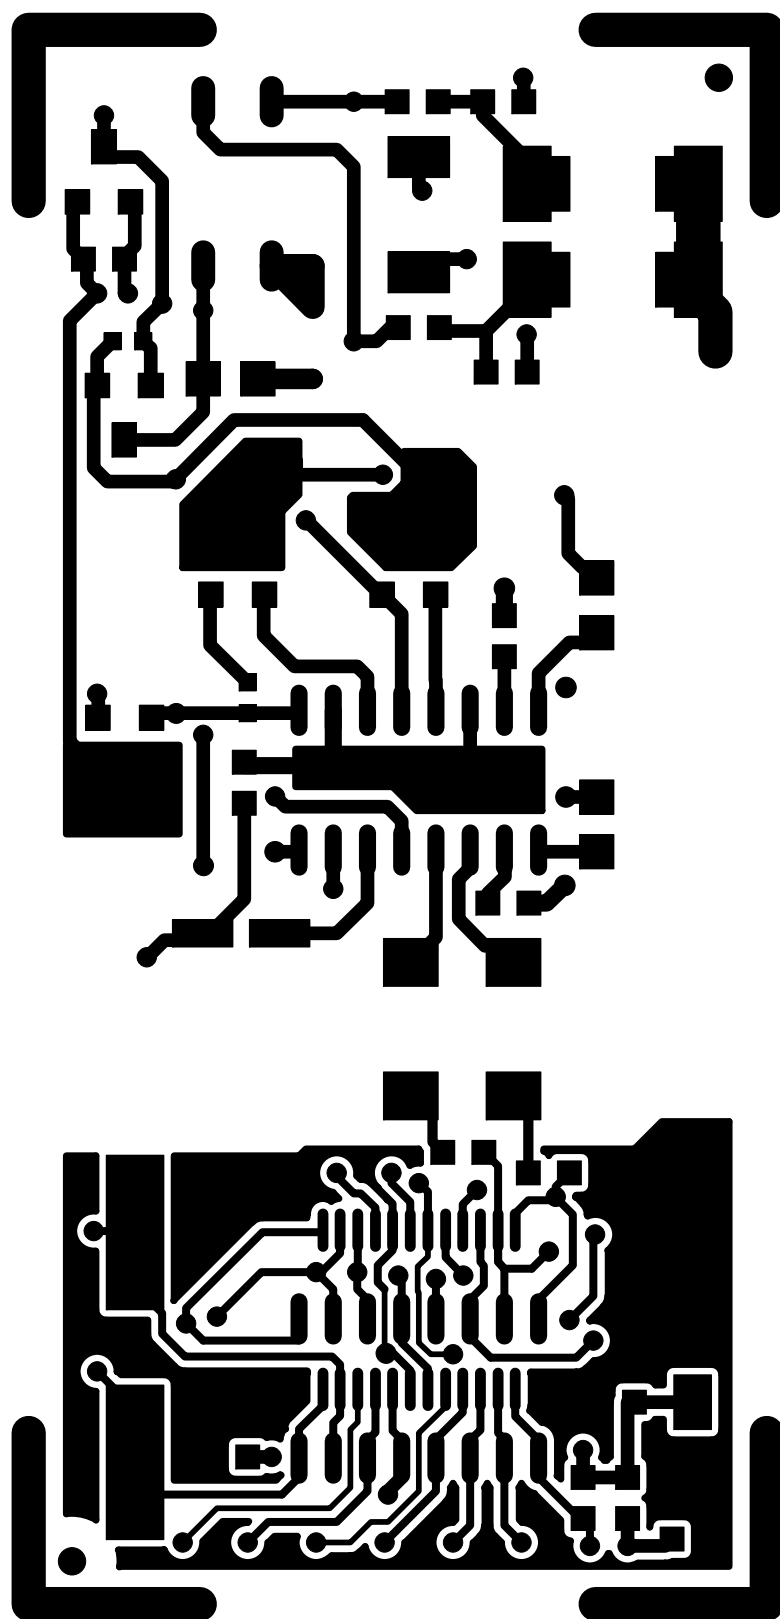

Figure 22. Daughter Card Component Side Layout
- Updated Figure 22, “Daughter Card Component Side Layout,” on page 26